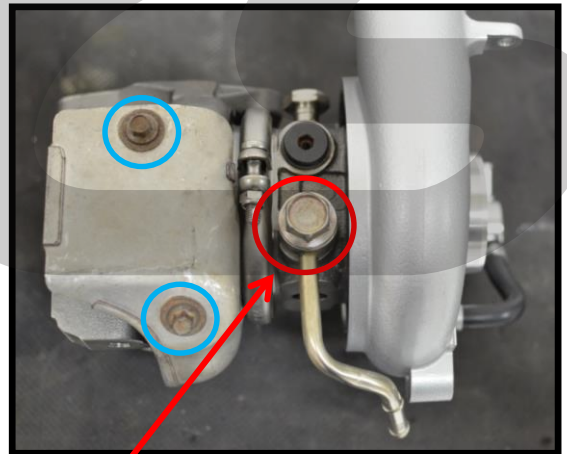

Figure 10a
- Remove the 17mm banjo bolt & lower coolant hard line from the OEM turbocharger, shown with the **red circle** in **Figure 10a**. Install this line on the CS turbocharger with the two new provided M14 copper crush washers. **Torque to 20 ft-lb.**
- Remove the two 8mm bolts holding the turbine heat shield, **circled in blue** in **Figure 10a**. Install the heat shield on the CS turbocharger. **Torque to 10 ft-lbs.**